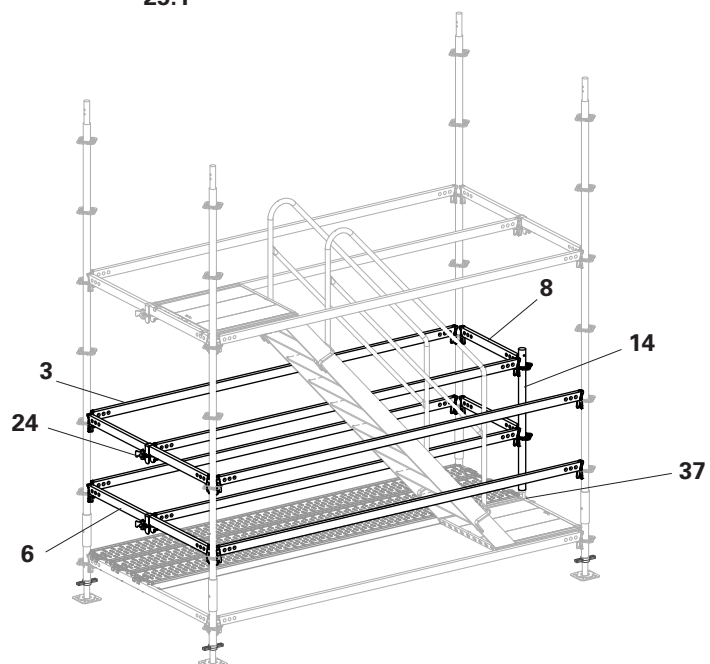

Fig. B3.06
1. Attach the Horizontal Ledgers UH-2 300 (3) and UH-2 150 (6).
2. Insert Top Standard UVH-2 100 (14) into the UH Spigot-2 (37).
3. Attach the internal Horizontal Ledger UH-2 (8) with Ledger Bracket UHA Half (24) to the Rosett of the Top Standard UVH-2 100 (14).
4. Attach Horizontal Ledgers UH-2 75 (8) between the Vertical Standard and Top Standard UVH-2 100 (14). (Fig. B3.06)